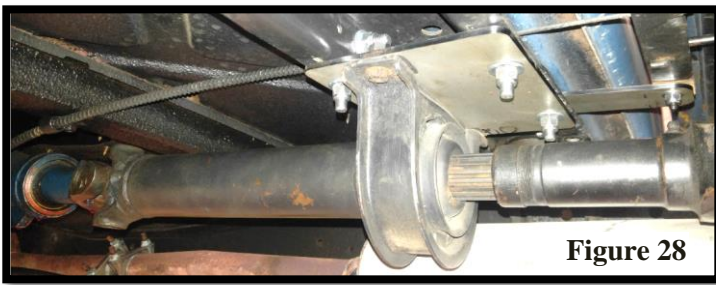

Figure 28
2. Bolt in new carrier bearing support using 7/16" x 1.25" bolts, washers, and nylock nuts. **(Figure 28)** Torque to 49 lb. ft.